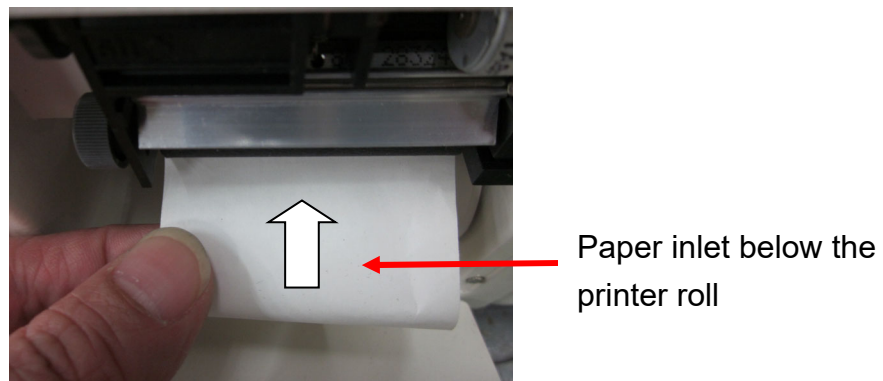
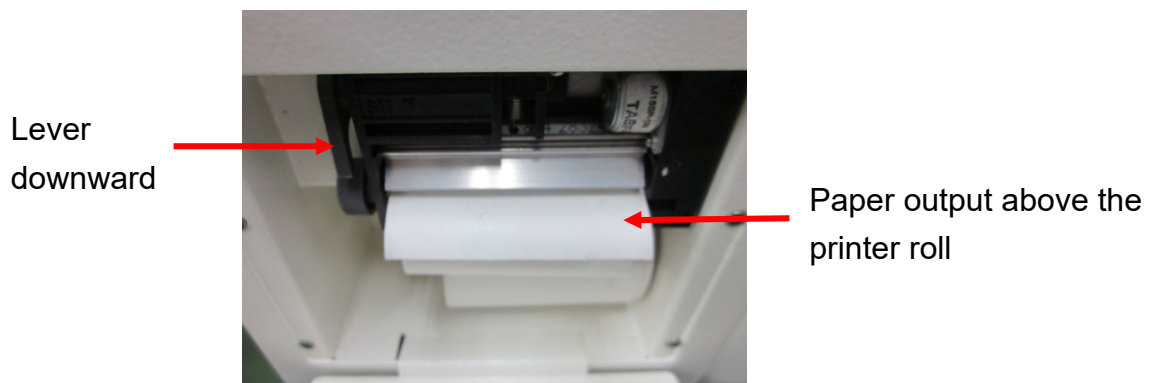

Figure 163
Figure 164
E. Replace with a new one thermal paper in the compartment, and. Locate the thermal paper to the paper inlet as shown in Figure 163, and then push the thermal paper until you can pull it out. Position the lever in the “downward position” as shown in Figure 164.